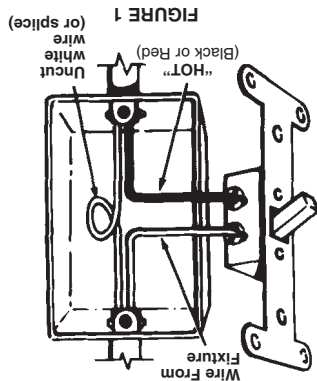

FIGURE 1 (or splice)
2. Remove wall plate and disconnect light switch. **Make sure both "hot" and neutral wires are present in the junction box.** (See Fig. 1.). If both wires are not present, additional wiring will be necessary before installation can be completed.